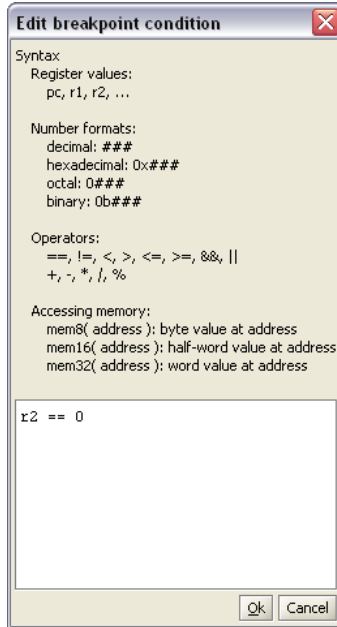

Figure 26. **Edit breakpoint condition** window.
3. The window in Figure 26 will appear. This window contains information about the syntax used to describe a condition. For this example type `r2 == 0`.